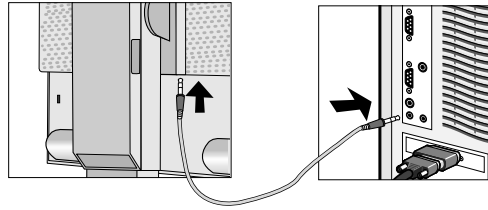

Figure A.1
2. Connect the audio cable to "AUDIO INPUT" on the back of the monitor and the other end to the "Audio out" terminal of the computer (**Figure A.1**).